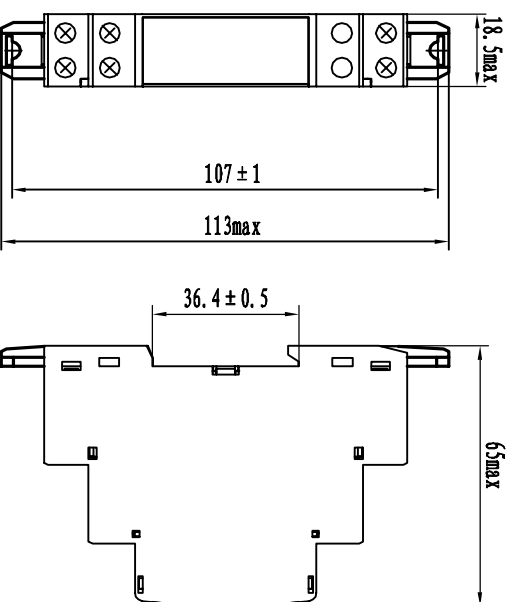

Figure 1 - Dimensions [mm]
6.1 Dimensions [mm] see Figure 1.